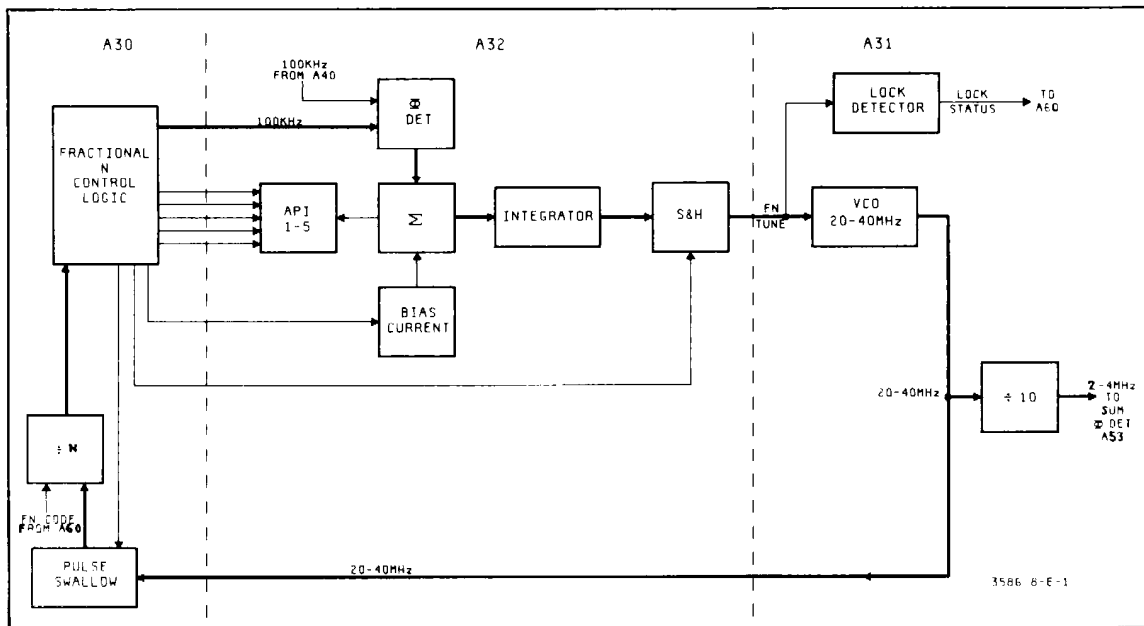

Figure 8-E-1. Fractional-N Loop (Simplified).
10. Next check TP8 for a 100kHz signal as shown in Figure 8-E-6. This signal will be unstable with the loop unlocked but should be present and at the correct DC level ($+1.3\text{V}$ to -1.0V) as seen on a scope. The same is true for the other waveforms shown on Figure 8-E-6 which are phase detector-related. They are unstable with the loop unlocked, and some may have different levels than those shown. However, if 100kHz signals are present at TP3 and TP4, the signals at TP8, TP6, and TP2 should be present. Their absence indicates a problem in that general area or preceding it.
12. Press RECALL and \emptyset . Connect the scope to A32TP2 (the Integrator output). The signal there should resemble that shown on Figure 8-E-6. Activate the FREQUENCY STEP function of the RPG. Changing the tuned frequency by a few Hertz with the RPG should cause the
8-E-20. As mentioned in a preceding paragraph, the best tool for troubleshooting the Fractional-N loop is a good understanding of how it works. The service technician who has never seen a Fractional-N circuit before should read all of the theory in paragraphs 8-222 through 8-243 before attempting to troubleshoot the loop. Study Figure 8-E-2 and 8-E-6 until a good understanding of functional operation is obtained and then follow the procedure in paragraph 8-E-10 to verify the problem. Review the following hints for additional information that may be of some help.